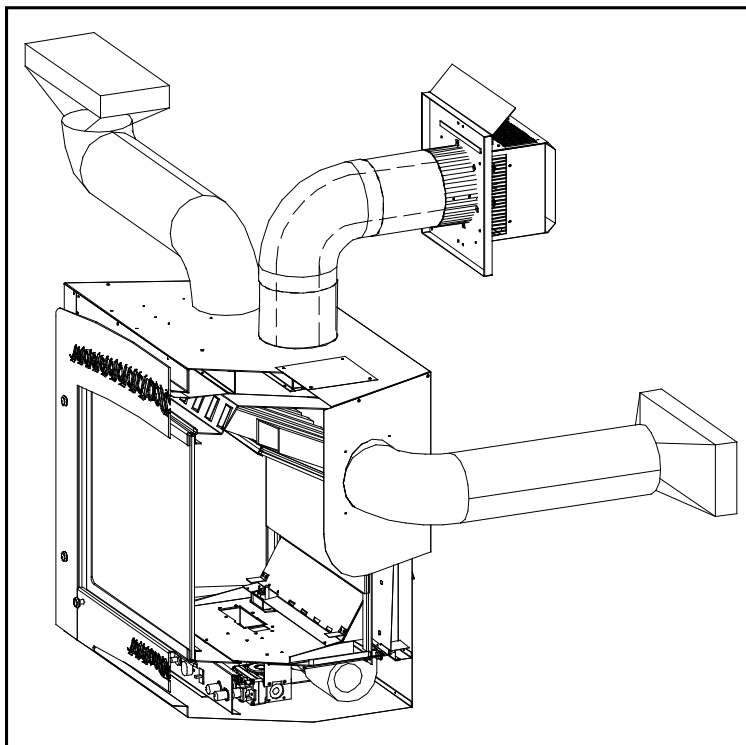

Figure 37. Heat Dumping Options.
The option of ducting allows heat from the fireplace to be transferred to a different area. The maximum total length for the ducting is 20 feet (6.1 m). There are four (4) duct outlets that can be used (see Figure 37), however, the blower puts out 200 cfm no matter how many ducts are used. Therefore, the more ducts there are, the less air goes through each one. A short, straight duct maximizes its heating ability as air in the ducts is restricted by the length and number of bends in the pipe.